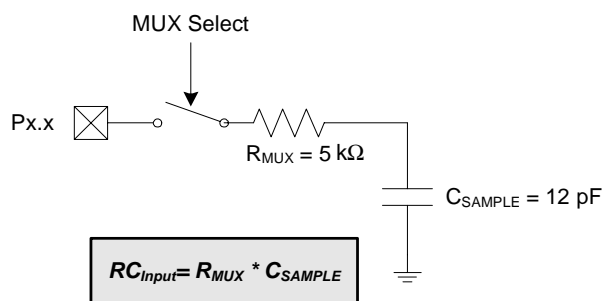

Figure 5.6. ADC0 Equivalent Input Circuits
Figure 5.6 shows the equivalent ADC0 input circuit. The required ADC0 settling time for a given settling accuracy (SA) may be approximated by Equation 5.1. When measuring the Temperature Sensor output or V_{DD} with respect to GND, R_{TOTAL} reduces to R_{MUX} . See Table 5.3 and Table 5.4 for ADC0 minimum settling time requirements.